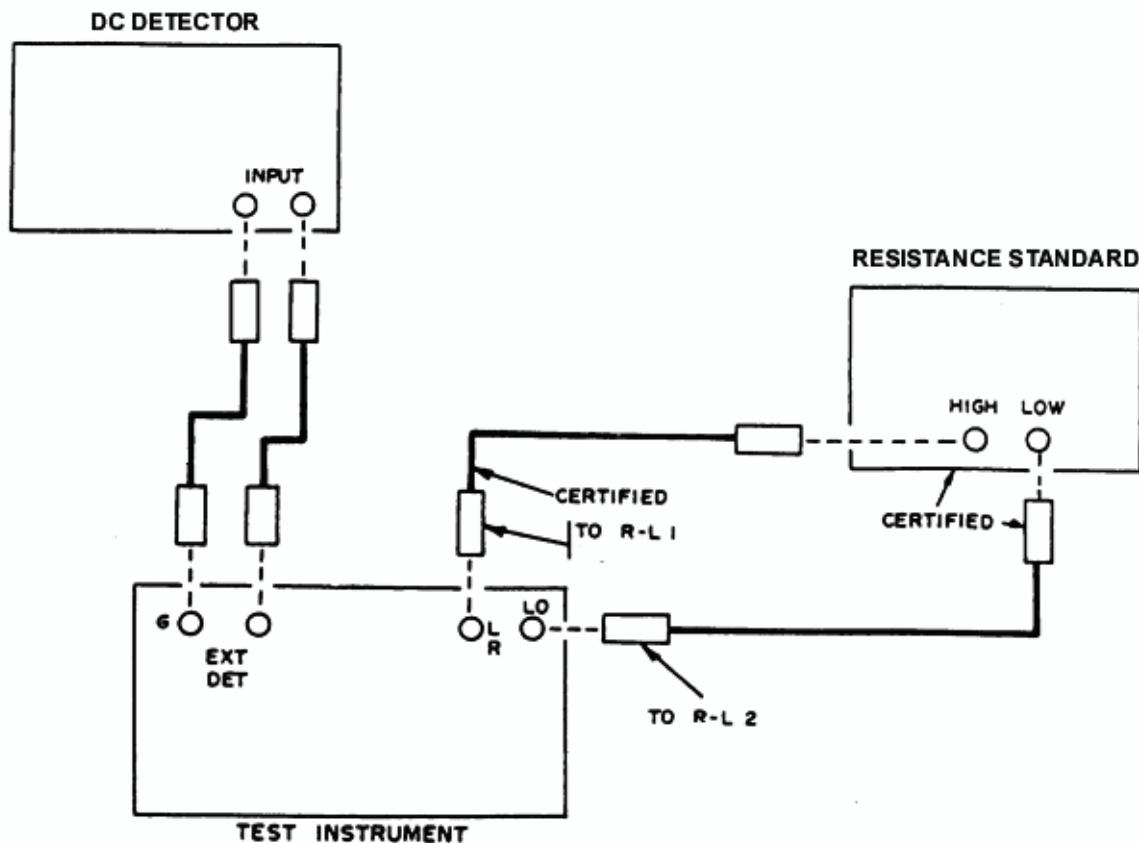

Figure 3. Resistance - equipment setup.
- (1) Certify resistance standard values with leads at 1, 10 and 100 Ω ; 1, 10, and 100 k Ω ; and 1 M Ω settings respectively using resistance bridge and dc detector (part of resistance measurement system). Record each value to 100 ppm.
- (2) Set **RANGE** switch to **RX0.1 Ω** and **FUNCTION** switch to **RX1**.
- (3) Set **GEN-DET** switch to **INT-DC** and **DET-GAIN** control to **2**.
- (4) Connect equipment as shown in figure 3.
- (5) Adjust resistance standard to 1.00 Ω .
- (6) Adjust **LRC DIALS** until dc detector indicates null.
- (7) TI dials will indicate within $\pm .1$ percent plus one dial division of certified value recorded in (1) above.
- (8) Repeat technique of (5) through (7) above for **RANGE** switch settings of **RX1, 10, 100, 1K, 10K, and 100K**, with resistance standard set to 10 and 100 Ω ; 1, 10, and 100 k Ω ; and 1 M Ω , respectively.